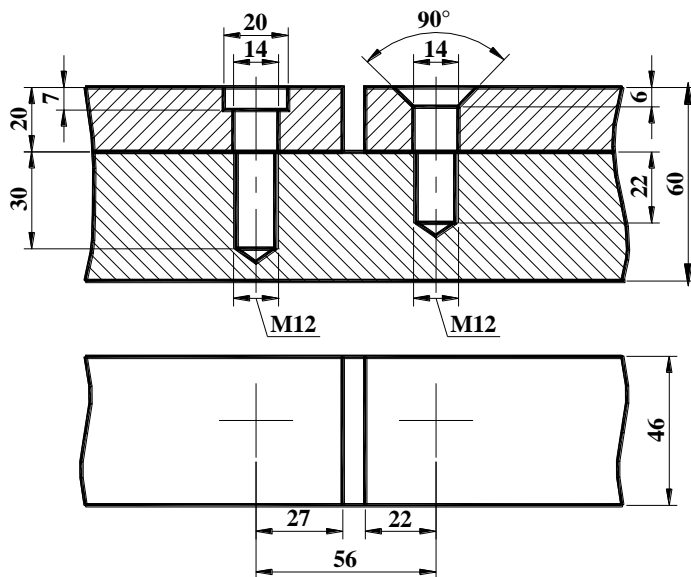

Figure T5.2
2. Draw a screw fastening shown in *Figure T5.2* with suitable value of dimensions.